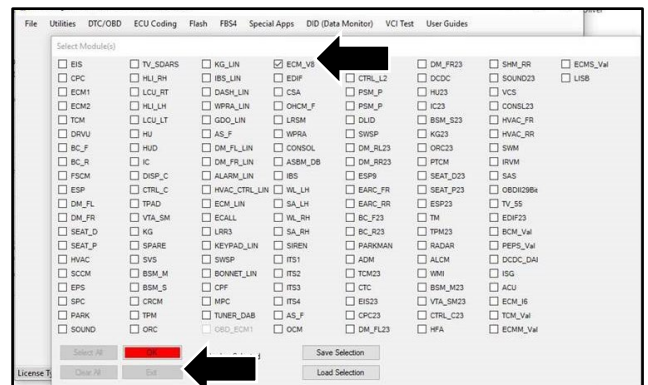

Figure 13
23. Select "ECM_V8" then "OK" (refer to Figure 13).